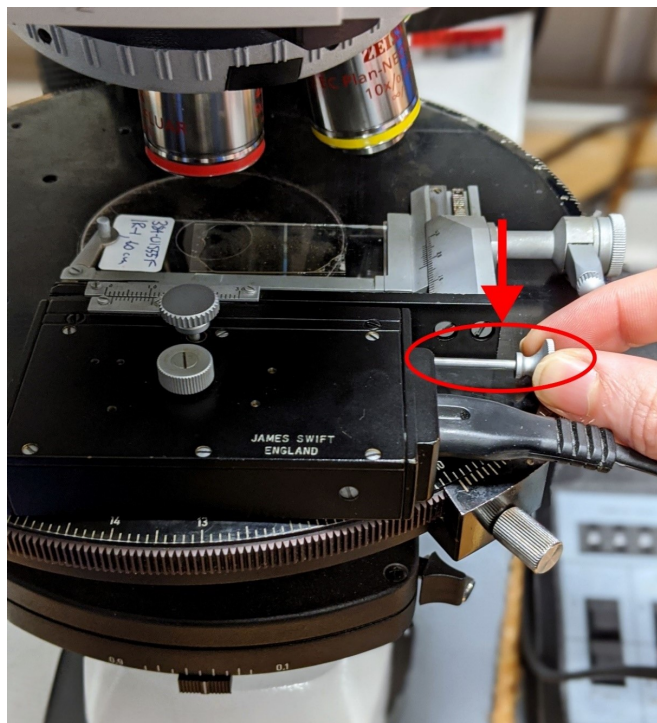

Figure 14: Rod being pulled to move the horizontal axis back to the right.
2. Turn the knob clockwise to re-engage the gears. Now the position will not slip to the left anymore and the stage can be pulled to the right to the desired location (Figure 14). A good starting place is to line up the '0' hash mark on the first hash mark of the fixed scale bar, however this will depend on the sample being observed.